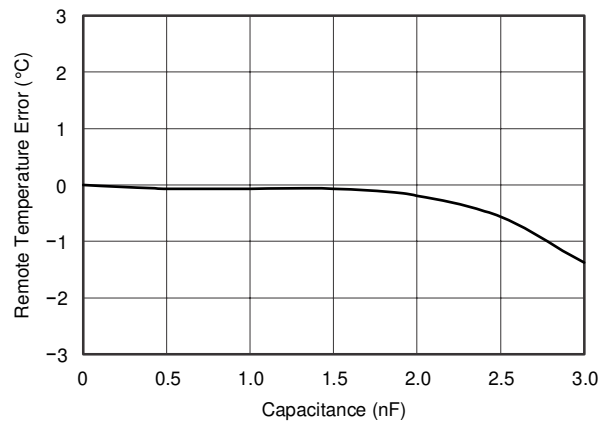
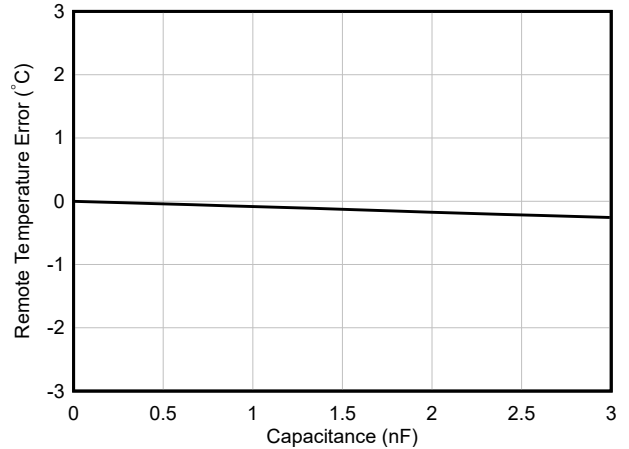

Figure 6-12. Remote Temperature Error vs Differential Capacitance (Legacy Chip)
Figure 6-13. Remote Temperature Error vs Differential Capacitance (New Chip)
- C. C_{DIFF} (optional) must be $< 1000\text{pF}$ in most applications. Selection of C_{DIFF} depends on the specific application; see Filtering, Figure 6-12 (Figure 6-13 for the new chip), and Figure 6-28.
The TMP411-Q1 and TMP411D-Q1 devices tolerate differential input capacitance of up to 1000pF with minimal change in temperature error. The effect of capacitance on the sensed remote temperature error is shown in Figure 6-12 (Figure 6-13 for new chip) and Figure 6-28.